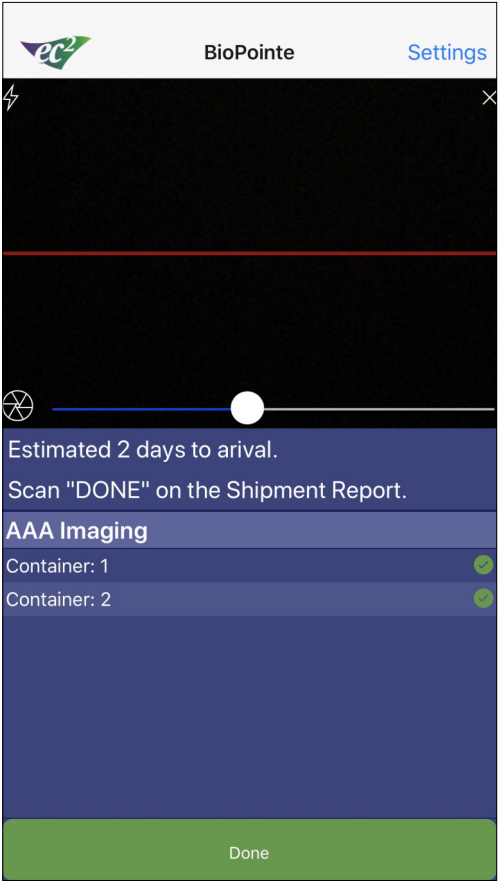

Fig 6
- b. Loading phase complete. Click on Done or scan the Done barcode on the Shipment Report. See Fig 6